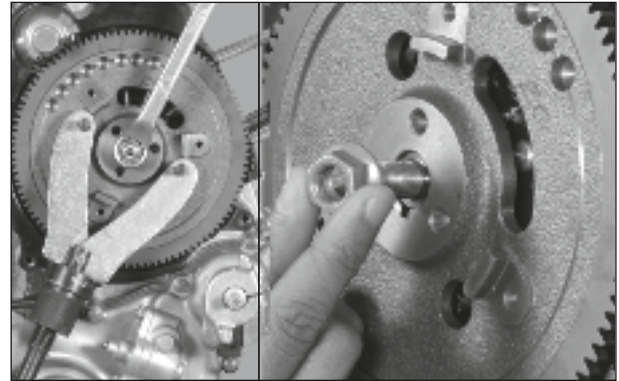

Fig. 3.39
- Hold the magneto rotor assembly using special tool. (Fig. 3.39)
- Loosen and remove 1no. Hexagonal flange nut (M12X1.25). (Fig. 3.39)